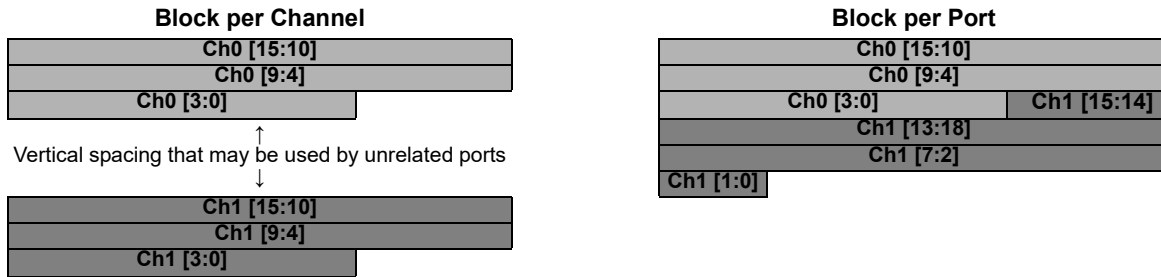

Figure 4-26. Block Packing Mode
- Payload data block refers to blocks of data within a frame, as controlled by BLOCK_PACKING_MODE (see p. 128) and shown in Fig. 4-26: